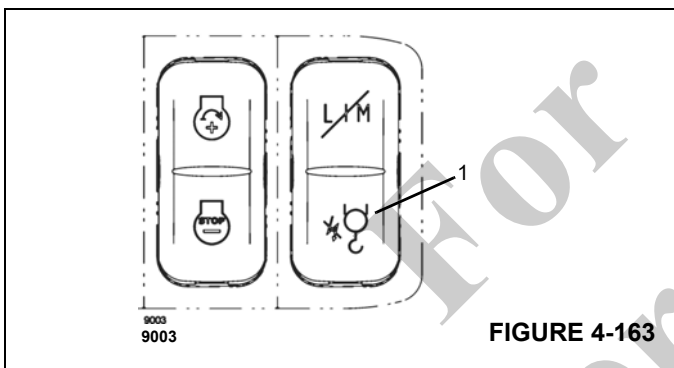

FIGURE 4-163
Press and hold the button (1), (Figure 4-163) – the swing gear is unlocked. The speed will then be reduced to 10%.